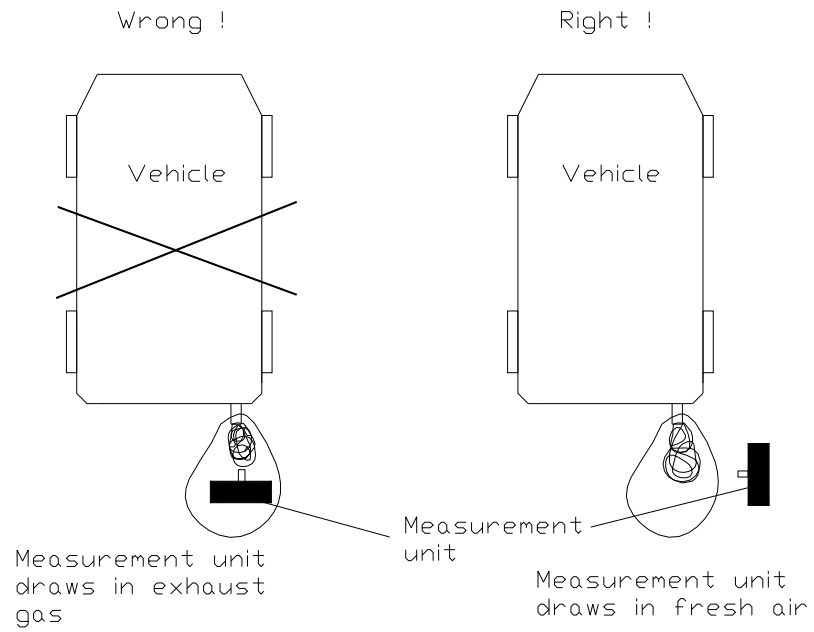
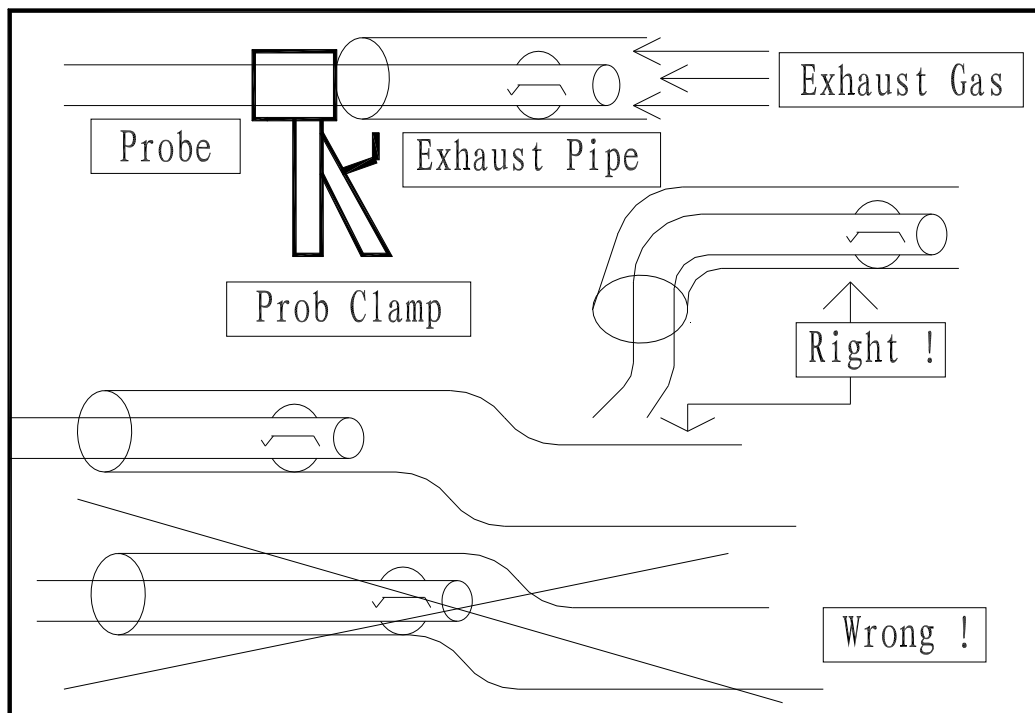

Fig. 10 Placement of Measurement Unit
Fig. 11 Insertion Method of Sampling Probe
6) After calibration, put the measurement unit near the exhaust pipe of the vehicle. The measurement unit must bring in clean air as protective air curtain during testing. If any exhaust gas is absorbed, it may affect the test result. In view of this, it is not allowed to put the measurement unit in diffusion direction of the exhaust gas, but in the right angle with it (see Fig. 10).
accelerator of the vehicle continuously for 2-3 times to exit the smoke soot inside the engine. While inserting the sampling tube into the exhaust pipe, the sampling probe must be inserted into the exhaust pipe for a depth of about 30cm unless the straight-line length of the exhaust pipe is shorter. In such case, try to insert the sampling probe to this depth as far as possible. The bending of the exhaust pipe should not block the entrance of the sampling probe so as to avoid influence to the test result. Make sure that the insertion direction of the probe is in the same direction of exhaust (see Fig. 11).
- b. After calibration, a prompt “Please insert probe” is displayed. Operator should step down the accelerator continuously for 2-3 times to exhaust the smoke soot from the engine. Put the measurement unit near the exhaust pipe of the vehicle. The measurement unit must bring in clean air as protective air curtain during testing. If any exhaust gas is absorbed, it may affect the test result. In view of this, it is not allowed to put the measurement unit in diffusion direction of the exhaust gas, but in a right angle with it (see Fig. 10). After that, insert the sampling probe into the exhaust pipe of the vehicle. The sampling probe must be inserted into the exhaust pipe for a depth of about 30cm unless the straight-line length of the exhaust pipe is shorter. In such case, try to insert the sampling probe to this length as deep as possible. The bending of the exhaust pipe should not block the entrance of the sampling probe so as to avoid influence to the test result. Make sure that the insertion direction of the probe is in the same direction of exhaust (see Fig. 11). Then, keep the revolving speed of the vehicle engine in idle, press “K” key for confirmation. “Testing, please wait” is displayed, indicating that the instrument is testing at idle speed, and the starting threshold and the stopping threshold of the sampling data can be achieved.
b. After calibration, a prompt “Please insert probe.” is displayed. Operator should step down the accelerator continuously for 2-3 times to exhaust the smoke soot in the engine to ensure accurate test. Put the measurement unit near the exhaust pipe of the vehicle. The measurement unit must bring in clean air as protective air curtain during testing. If any exhaust gas is absorbed, it may affect the test result. In view of this, it is not allowed to put the measurement unit in diffusion direction of the exhaust gas, but in a right angle with it (see Fig. 10). After that, insert the sampling probe into the exhaust pipe of the vehicle. The sampling probe must be inserted into the exhaust pipe for a depth of about 30cm unless the straight-line length of the exhaust pipe is shorter. In such case, try to insert the sampling probe to this depth as far as possible. The bending of the exhaust pipe should not block the entrance of the sampling probe so as to avoid influence to the test result. Make sure that the insertion direction of the probe is in the same direction of exhaust (see Fig. 11). Keep the revolving speed at idle speed, press “K” key for confirmation. “Please accelerate!” is displayed. The instrument does not check the exhaust smoke in idle as mentioned in step 5) of